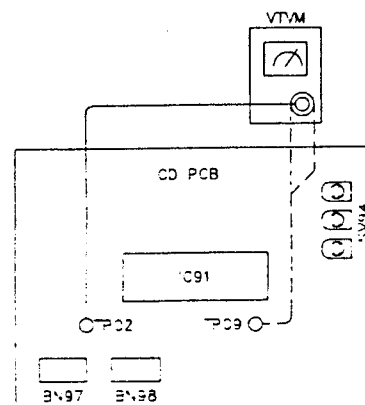

FIG5
1. Test equipment connection is shown in figure (Fig 5)